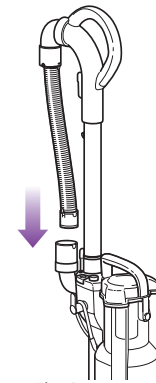

Fig. 3
- 4** Insert the stretch hose into the hose connector on the back of the unit. Make sure that it snaps in place. **(Fig. 3)**